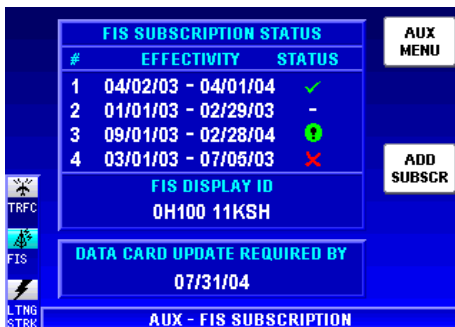

Figure 2-18
8. After the subscription has been accepted, Figure 2-18 will be displayed showing the subscription validity period and status. If the subscription has been entered prior to the beginning of subscription service, the entered subscription will begin when subscription services are turned on.
2. A screen similar to Figure 2-18 should be displayed. In this case subscription #1 is valid and no other subscriptions have been entered.